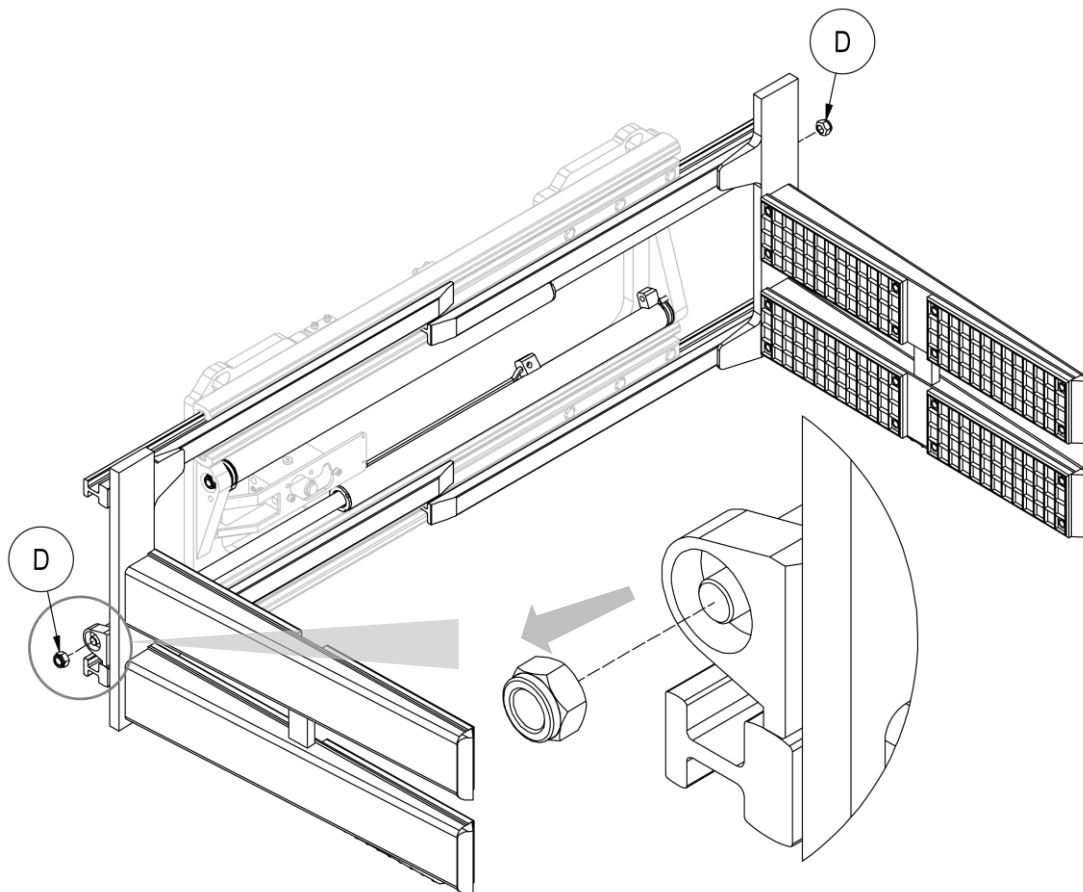

Figure 36
3. Remove the nuts D that secure the cylinders to the forks (see *Figure 36*).